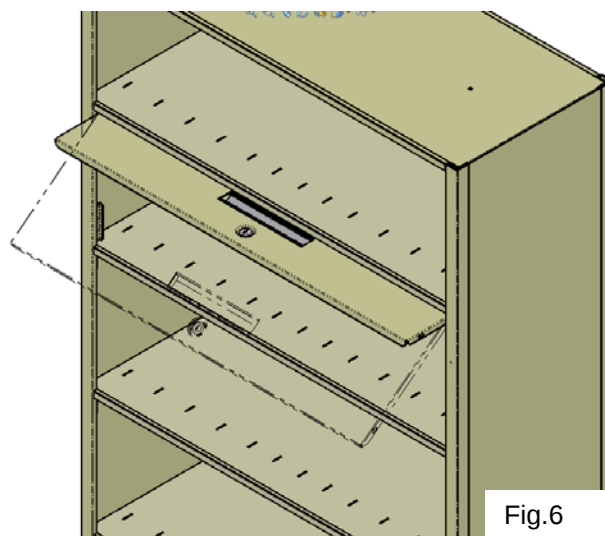

Fig.6
5. After the four screws have been installed, close the door and center the door left to right between the uprights then open the door and then tighten the screws. (See Fig.6)